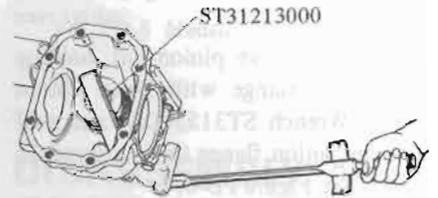

Fig. PD-15 Tightening drive pinion nut
- Fit drive pinion bearing spacer, washer, front bearing cone, Drive Pinion Dummy Collar ST31214000 and companion flange in this order on dummy shaft and tighten drive pinion nut to the specified torque using Stopper ST31213000. See Figure PD-15.